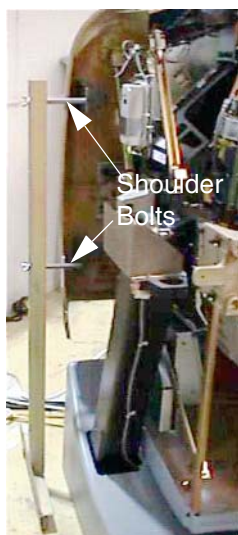

Figure A-25 One side of the Rear cover dolly
- b.) Fit the side dolly through the shoulder bolts and secure the assembly with two (2) wing-nuts (see Figure A-25).
The front and rear covers are held in a fixed vertical position by the cover locking mechanisms. These are located on each side of the cover at the vertical middle. The only adjustment capability is found on each of the cover cantrells (see Figure A-25), one near each corner of the front and rear covers. Adjustments are best done at zero tilt.
- 5.) Use a 5 mm hex wrench to adjust the bolt on the gantry-end of the cover cantrells (see Figure A-25). Lengthen or shorten the cantrell arm that pushes or pulls the cover corner. The distance between the inside edges of the front and rear covers is typically 27 in. + 1/8 in. (689 mm). Hang the covers level using a level on the inside vertical edge. Maintain the distance along the inside edges from top to bottom.